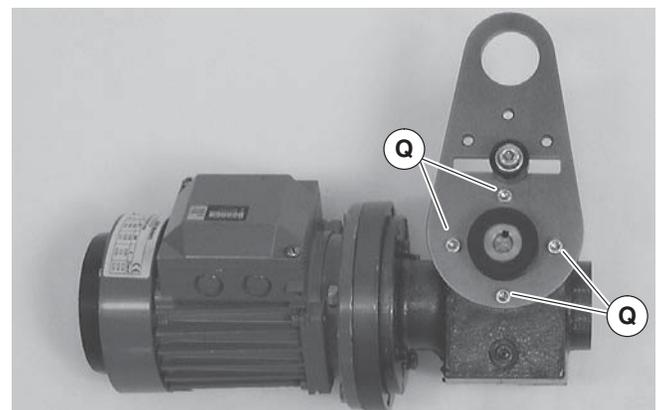

Figure 5
2. If required, change gearmotor position by removing four (4) screws (Figure 5, item Q). Rotate gearmotor to other position and replace screws (Q). Tighten to 103 in-lb (12 Nm).